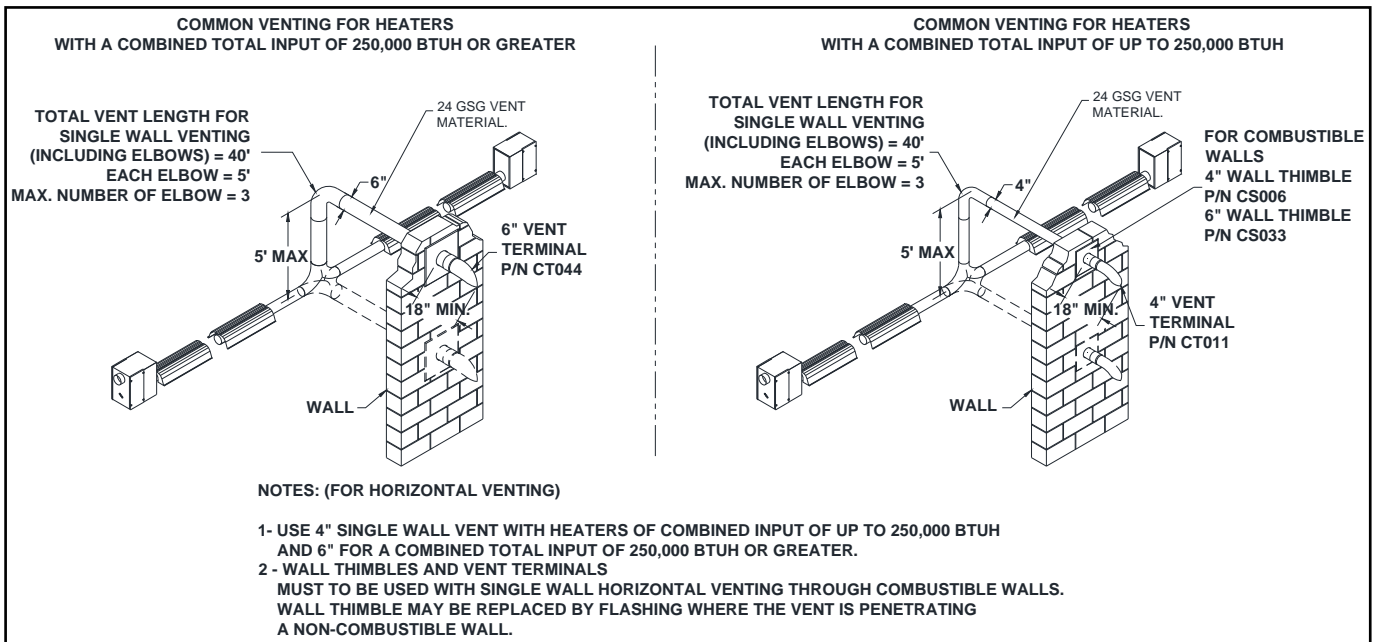

Figure 26: Common Horizontal Venting
- Refer to Figure 26 for detailed Common Horizontal Venting guidelines.